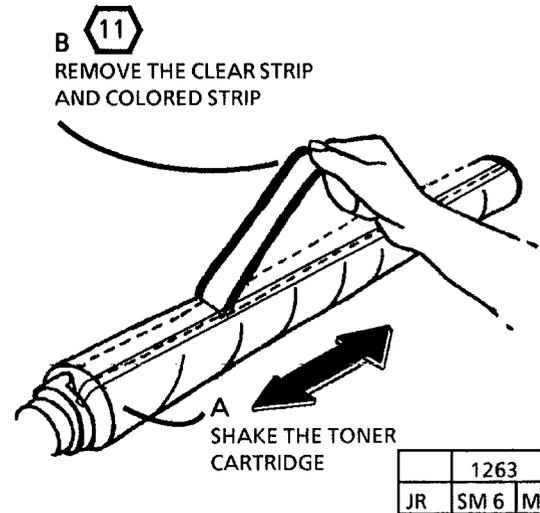

Figure 21. Install the Dry Ink Plus Cartridge
37. (FIGURE 21): PREPARE TO REINSTALL THE DRY INK PLUS CARTRIDGE.